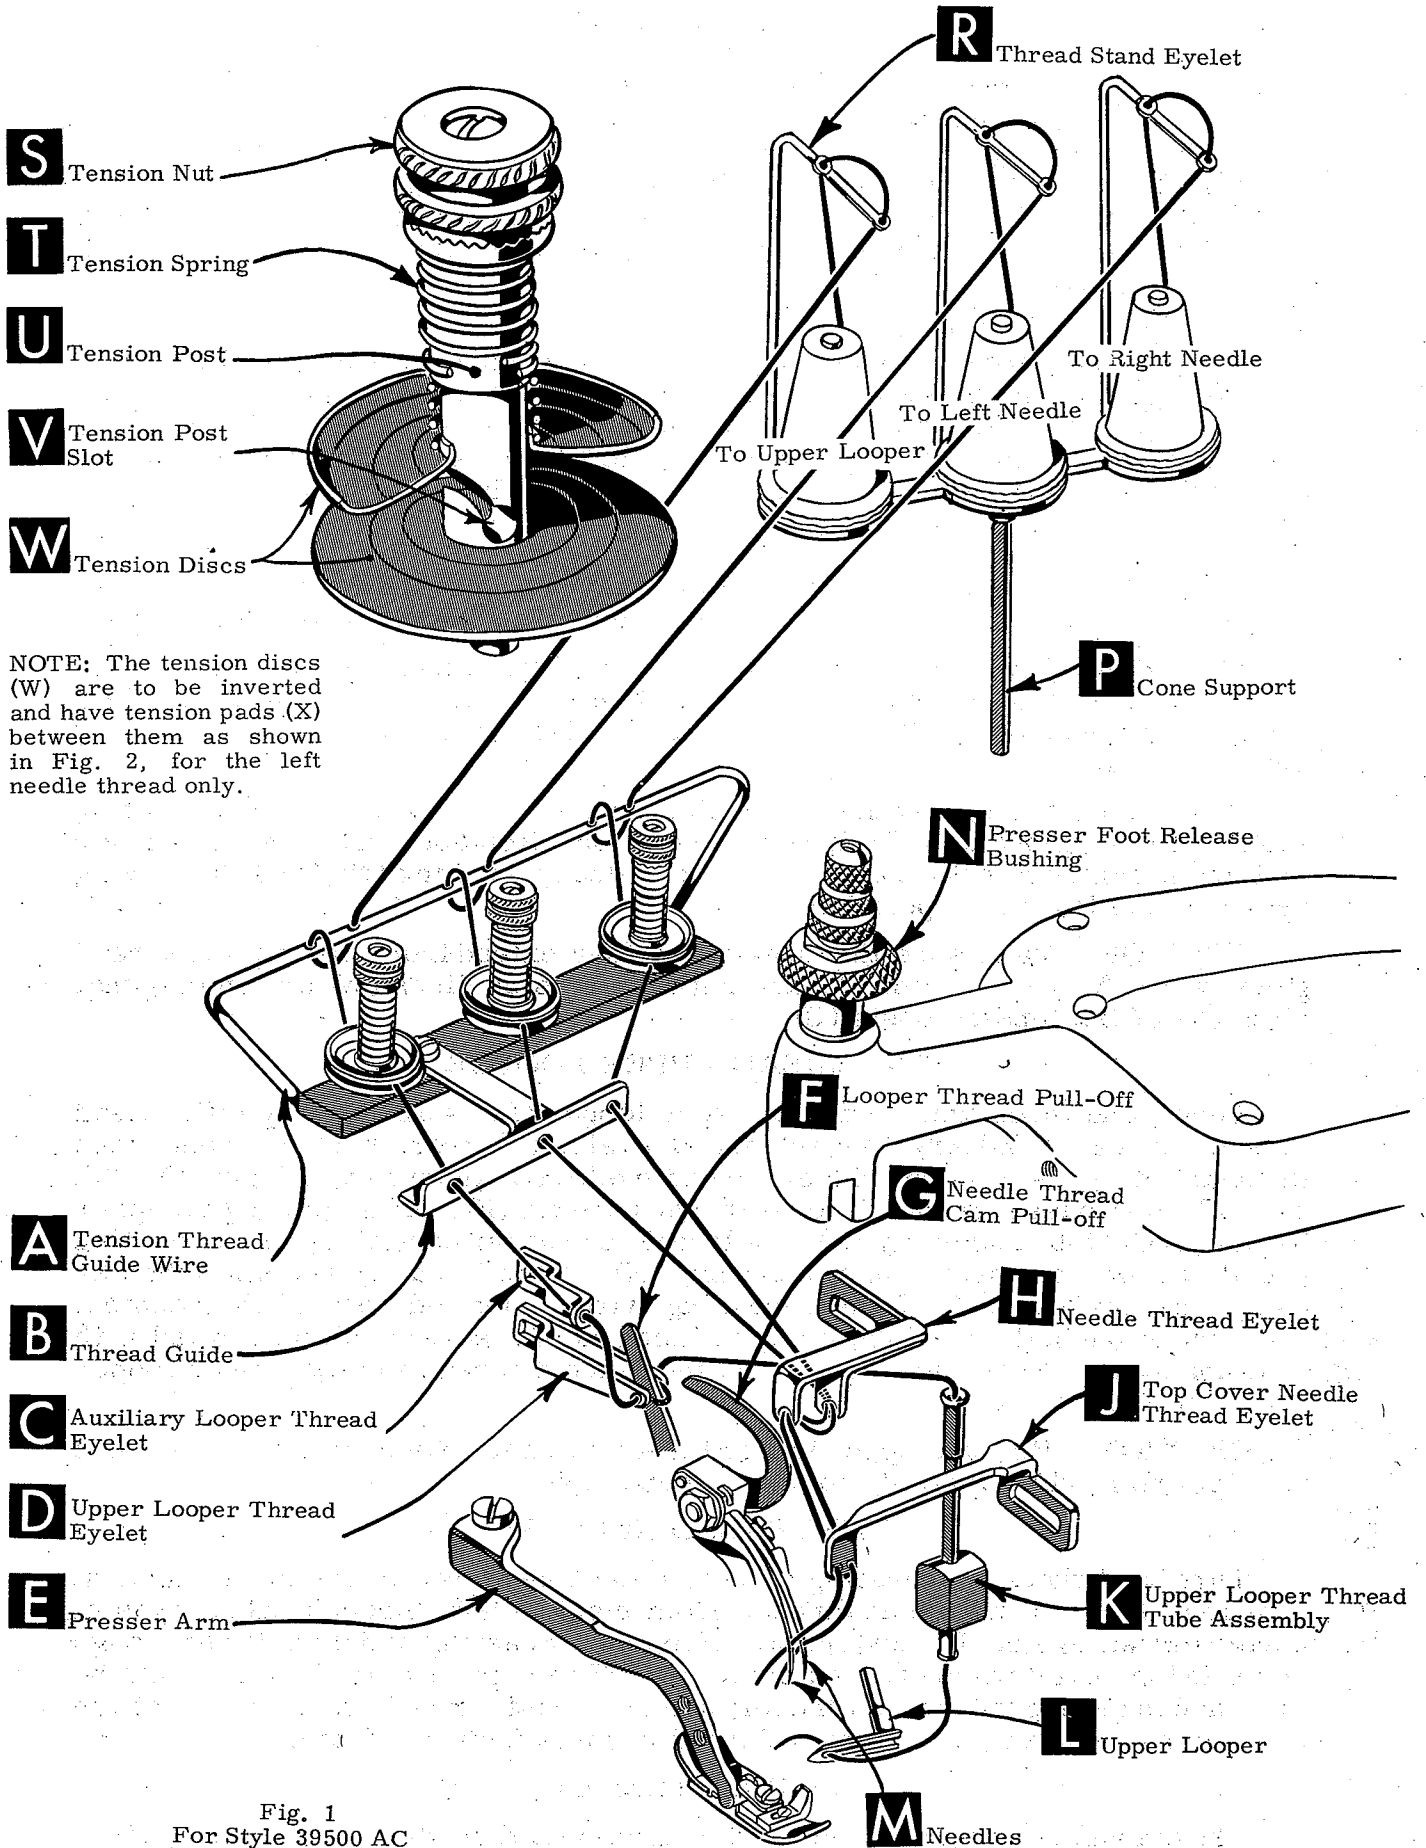
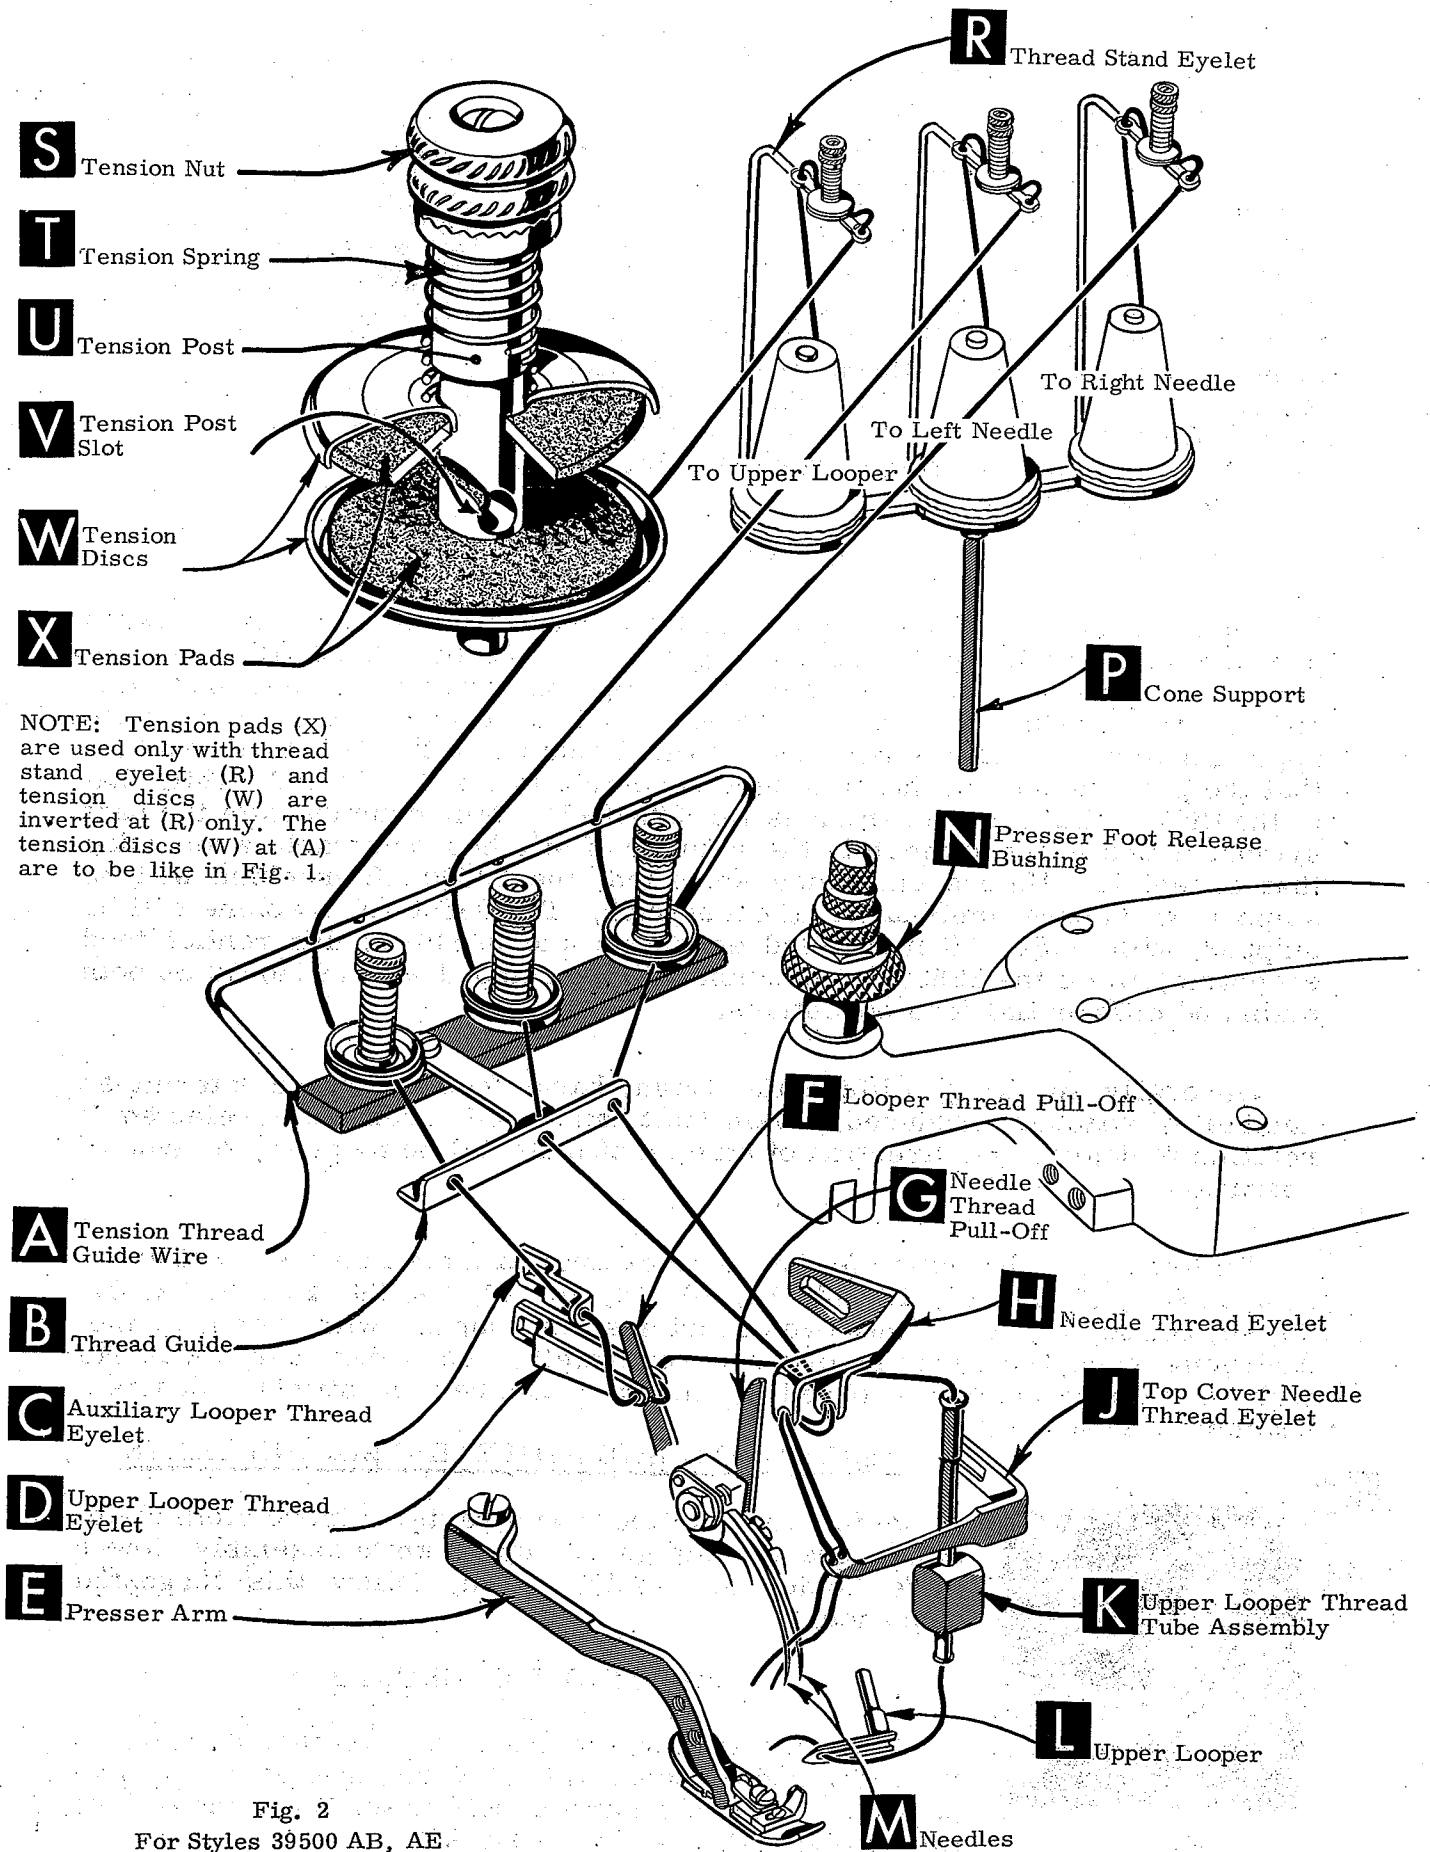

Fig. 1
Fig. 2
Release pressure on presser foot by turning presser foot release bushing (N, Figs. 1 and 2) and swing presser arm (E) out of position. Turn handwheel in the operating direction until needles are at their lowest point of travel. Using hexagonal socket wrench No. 21388 AU, furnished with machine, loosen needle clamp nut about 1/4 turn. Again turn handwheel until needles are at high position. Withdraw needles.
After thread comes from thread cones (positioned on cone support (P)), it is brought up through BACK thread eyelet, then down through FRONT thread eyelet (R, Fig. 1). Next, thread is extended down through the right hand hole and up through left hand hole of the tension thread guide wire (A). Thread is then continued between tension discs (W), through slot (V), and on through thread guide (B).
After thread comes from cones (positioned on cone support (P)), it is brought up through the BACK thread eyelet, then continues between felt pads (X) through slot (V), and down through FRONT thread eyelet (R, Fig. 2). Next, thread is extended down through the left hand hole in the tension thread guide wire (A), through holes in the thread guide (B).
Only parts involved in threading are shown in threading diagrams (Figs. 1 and 2). Parts are presented in their relative positions for clarity.
**CAUTION!** Make sure the threads, as they extend from the tension thread guide wire (A, Figs. 1 and 2), are between tension discs (W) and in diagonal slots (V) of the tension posts (U).
The amount of tension on the needle and looper threads is regulated by three knurled tension nuts (S, Figs. 1 and 2). Tension on threads should be only sufficient to secure proper stitch formation.
Be sure machine is threaded according to diagram for your style of machine (either Fig. 1 or Fig. 2). With thread tensions light, set looper thread eyelet (D, Figs. 1 and 2) about horizontal and back in its front to back location. Operate machine slowly, without presser foot in place, to make sure that chain forms and moves off the tongue freely. Swing presser foot into position, insert material, and sew slowly.
About 60% of needle thread is drawn from cones on needle down stroke. The remaining 40% is drawn on the upstroke. With needle at bottom of stroke, position needle thread eyelet (H, Fig. 1) so that needle thread cam pull-off (G) just contacts needle thread.
Usually, all needle thread is drawn on needle down stroke. At top of needle stroke, thread should be just tight enough to feed chain off stitch tongue. Needle threads tend to pull down slightly if excessive thread is pulled on the up stroke. With needles at bottom of stroke, position needle thread pull-off eyelet (H, Fig. 2) so that the needle thread pull-off (G) draws the proper amount of needle thread to satisfy the above conditions.
During needle down stroke, forward stroke of looper thread pull-off (F, Fig. 1 or Fig. 2) will draw upper looper thread through the tension. When normal amount of looper thread is drawn, upper looper thread will have almost all slack taken up as looper thread pull-off reaches its most rearward position.
If upper looper thread has a loose appearance in the seam, move looper thread pull-off eyelet (D, Fig. 1) forward and raise slightly. If, however, the eyelet is raised too high and moved too far forward, the looper thread will tend to break excessively--even with a minimum amount of looper thread tension applied.
If upper looper thread has loose appearance in the seam, move looper thread pull-off eyelet (D, Fig. 2) forward slightly. If, however, the eyelet is too far forward, the looper thread will tend to break excessively--even with a minimum amount of looper thread tension applied.